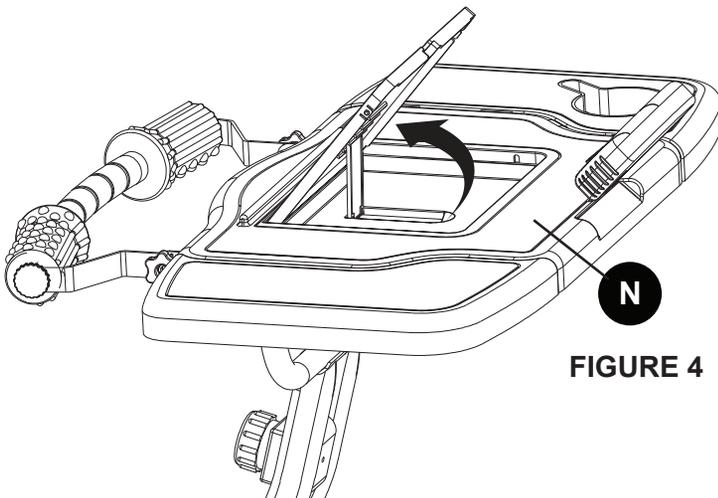

FIGURE 4
To use the flip top on the desk (N), first lift up from the back, then use the stand located under the flip top to hold it at a desired angle. **Figure 4**